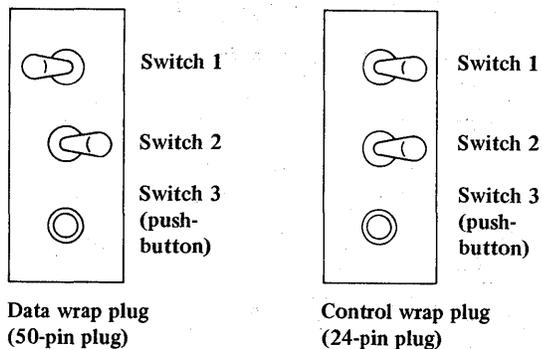

Figure 4-9. Manual mode wrap plugs for test 4
**7** Set the toggle switches on the data wrap plug and the control wrap plug as shown in Figure 4-9.
Are all switches set as shown in Figure 4-9?